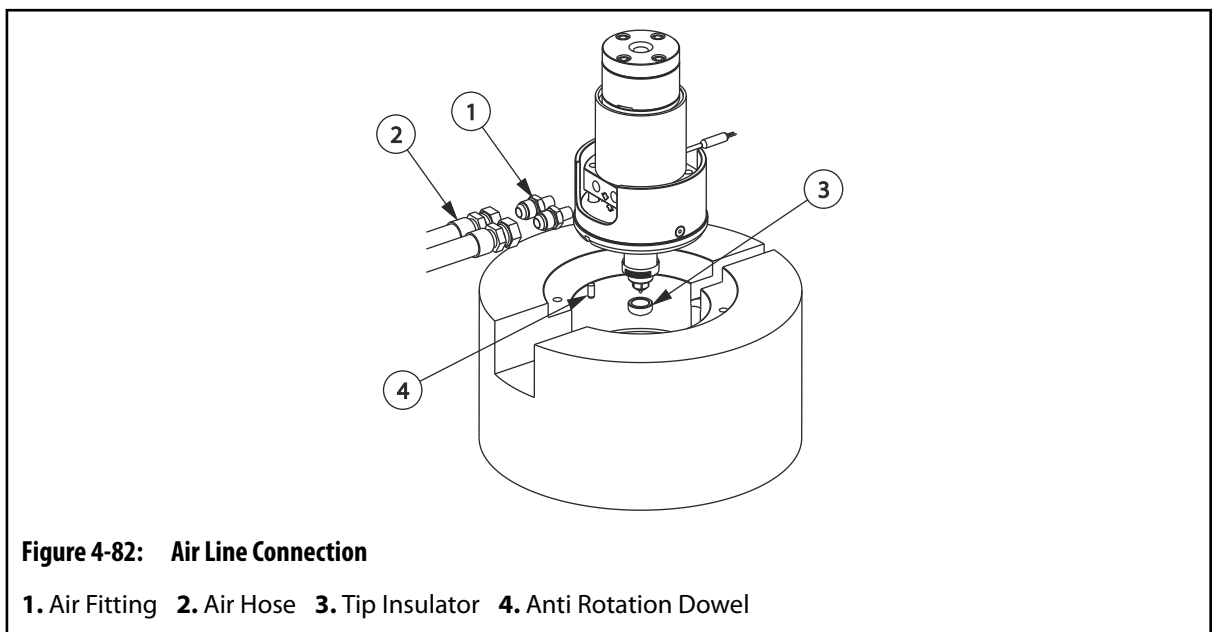

Figure 4-82: Air Line Connection
1. Connect two flexible air hoses to the air fittings. Refer to Figure 4-82.